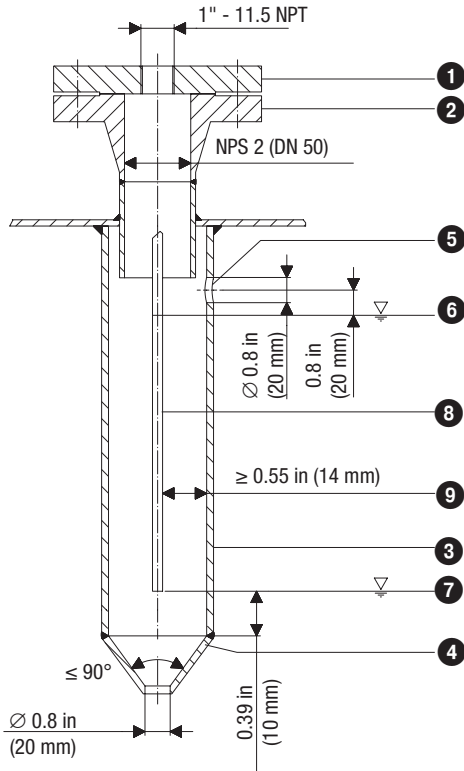

Fig. 5 Protective tube (provided on site) if electrode is used as an internal water level limiter
- Make sure there is a creepage path of at least 0.55 in (14 mm) between the electrode tips and ground (flange, tank wall). **Figs. 5, 6**